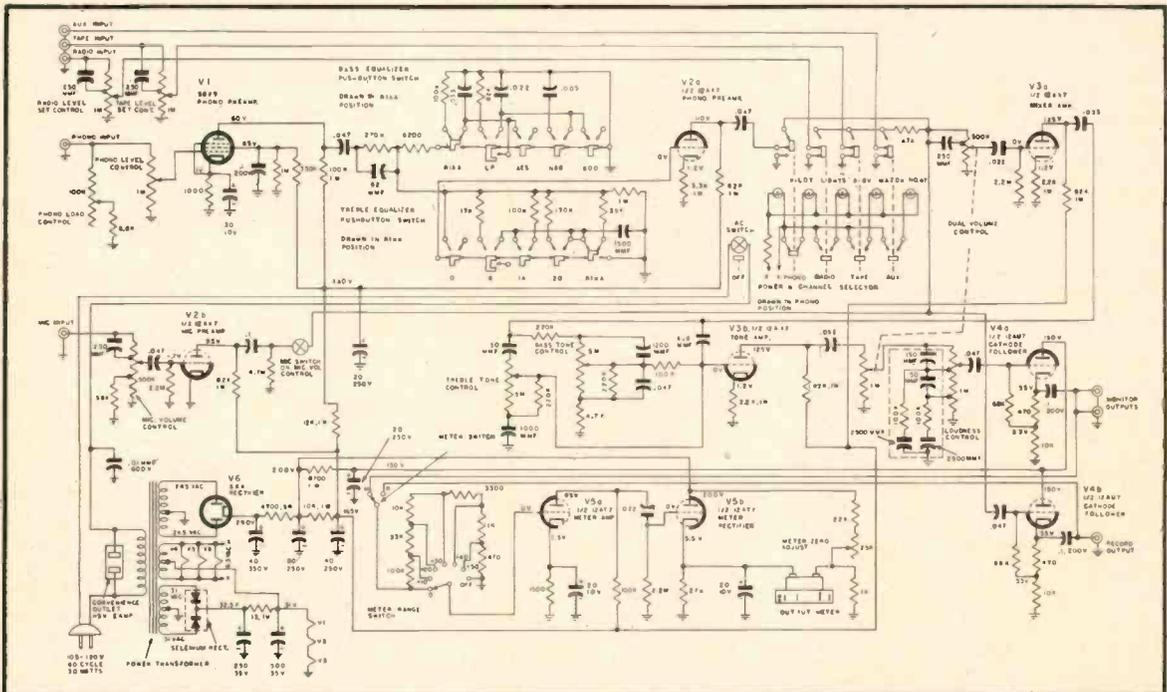

Fig. 3. Over-all schematic of Pilotrol PA-913.
**O**UR FIRST THOUGHT in seeing the Pilotrol PA-913 Preamplifier-Equalizer for the first time was that this was an item that many audiofans would "go for" because of its appearance and because of what it would do. That was before we had ever had an opportunity to play with it or even to inspect the circuit schematic (Fig. 3).